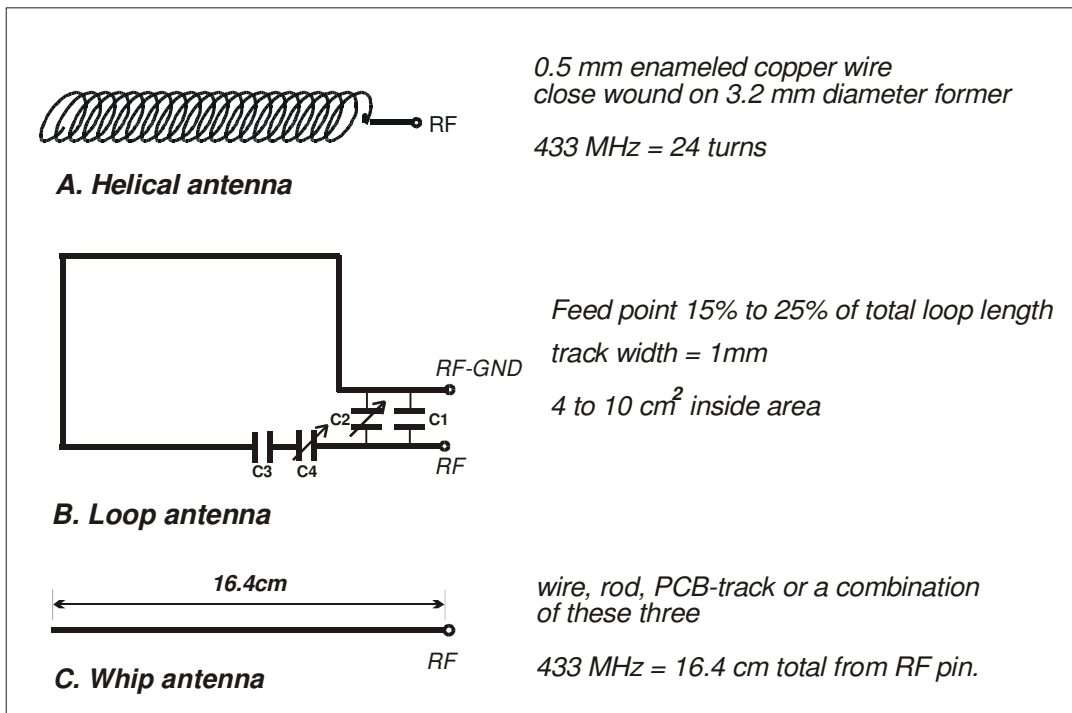

Figure 5: integral antenna configurations
**Helical.** This is a more compact but slightly less effective antenna formed from a coil of wire. It is very efficient for its size, but because of its high Q it suffers badly from detuning caused by proximity to nearby conductive objects and needs to be carefully trimmed for best performance in a given situation. The size shown in figure 5 below is about the maximum commonly used at 433MHz and appropriate scaling of length, diameter and number of turns can make individual designs much smaller.